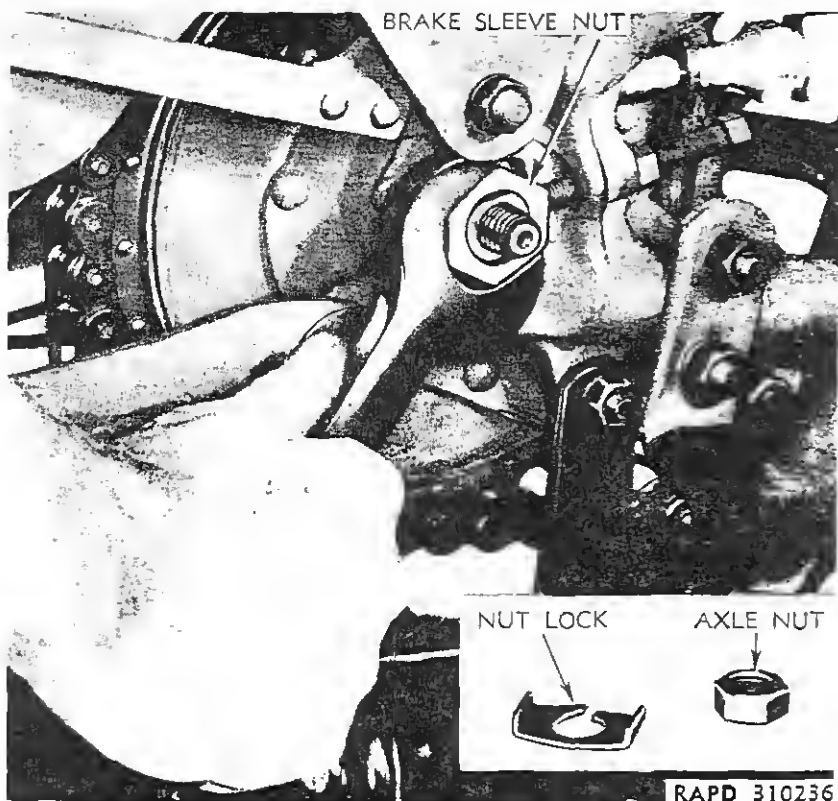
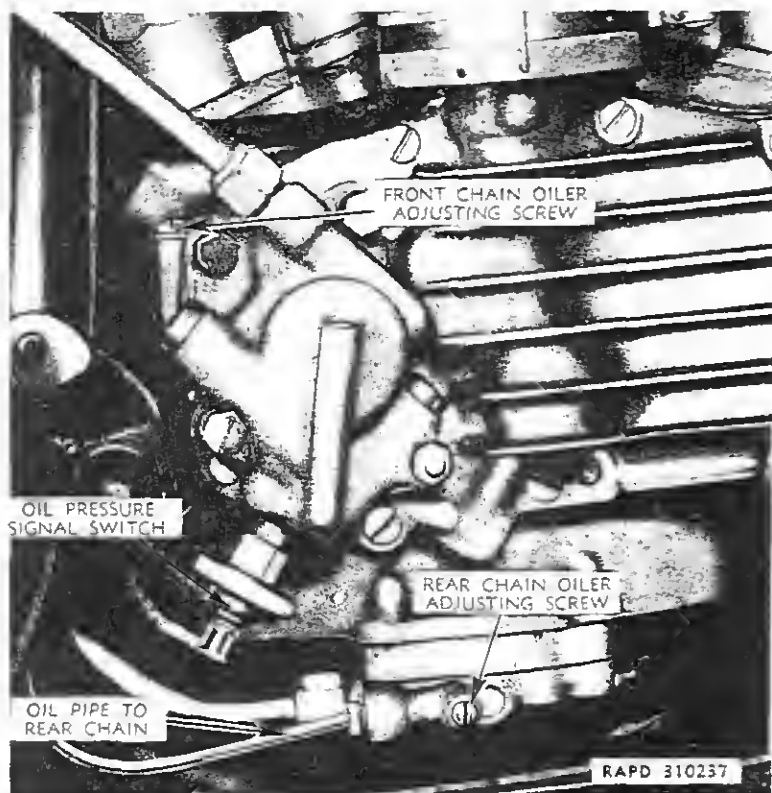

Figure 39—Brake Sleeve Nut
Figure 40—Chain Oilers
60. ADJUST REAR CHAIN AND ALINE REAR WHEEL (fig. 39).
(1) Remove rear axle nut and lock washer (right side of vehicle).
(2) Loosen brake sleeve nut enough to allow brake assembly to slide backward or forward in frame mounting (fig. 39).
(3) Loosen the two (right and left side) rear wheel adjusting screw lock nuts.
(4) Turn wheel adjusting screws clockwise (to right) to move wheel and sprocket backward. This tightens chain. NOTE: *If chain is too tight, turn wheel adjusting screws counterclockwise (to left) so that wheel can be shifted forward. This will loosen chain.* Always turn the two wheel adjusting screws an equal number of turns in order to keep wheel alined.
(5) Check correct alinement of wheel by noting that tire (not tire rim) runs approximately midway between lower rear frame tubes at the point where tubes join transmission mounting. It is desirable to have tire run slightly closer (not more than $\frac{1}{16}$ in.) to right than to left side lower tube. A further check of alinement is observing that rear sprocket runs centrally in chain. CAUTION: *If rear wheel is not correctly alined, vehicle steering will be affected, and sprockets will wear excessively on one side.*
(6) With adjustment of chain and wheel alinement completed, securely tighten wheel adjusting screw lock nuts, and brake sleeve nut; replace axle lock washer and nut, tightening nut.
(7) Recheck adjustment of chain as tightening brake sleeve nut and axle nut sometimes changes the chain adjustment.
(8) After tightening rear chain, rear brake may be found too tight. Check and correct brake adjustment (par. 96).
61. CHAIN OILERS (fig. 40).
(1) Add thin (0.002-inch thick) washer under head of front chain oiler adjusting screw (fig. 40). Do not remove any washers already under head of screw.
(2) To check results, refer to step b above.
(1) To adjust oiler, remove thin (0.002-inch thick) washer from under head of front chain oiler adjusting screw (fig. 40).
(1) Adjust oiler by adding thin (0.002-inch thick) washer under head of rear chain oiler adjusting screw (fig. 40). Do not remove any washers already under head of screw.
(2) To check results, refer to step **b** above.
(1) To adjust oiler, remove thin (0.002-inch thick) washer from under head of rear chain oiler adjusting screw (fig. 40).
g. At 1000-mile intervals, loosen both front and rear chain oiler adjusting screws (fig. 40) two turns each. Do not remove screws. Start and idle engine 1 minute, then tighten screws firmly, but do not force. This operation serves to flush oiler control valves and rear chain oiler pipe.